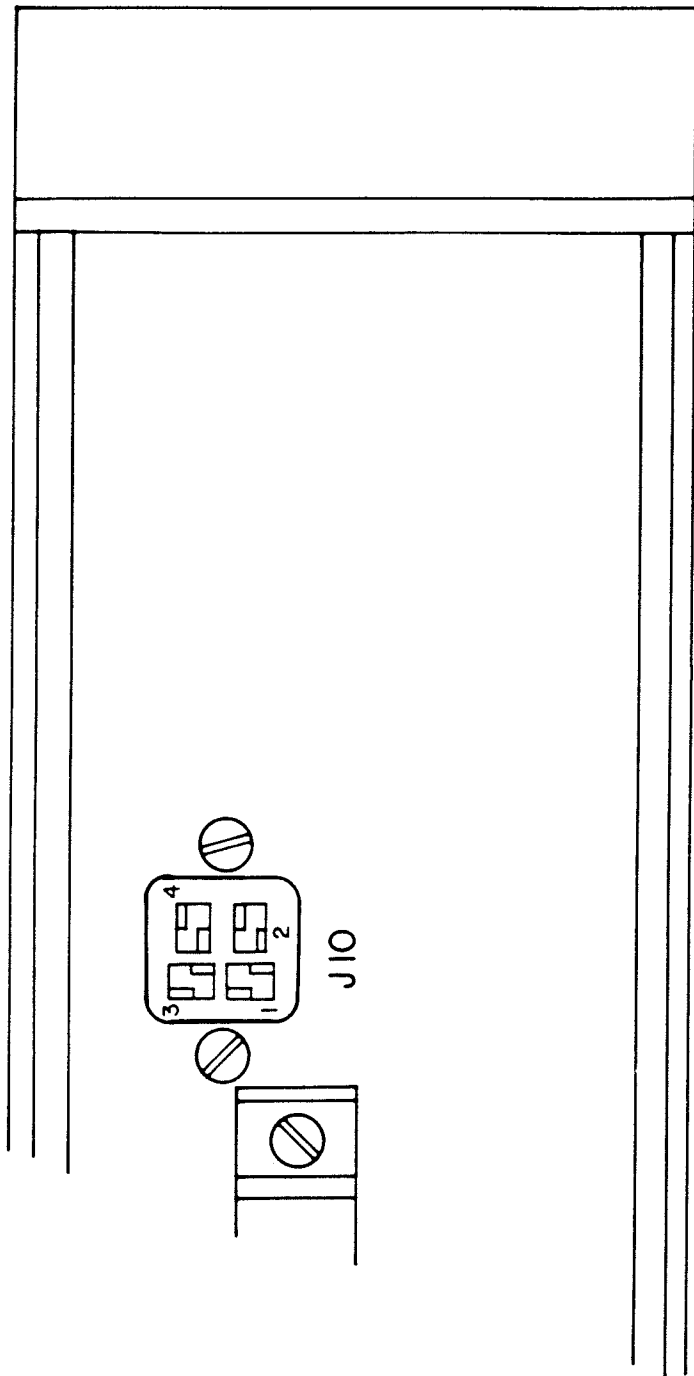

FIGURE 3.5. KT-22 ACCESSORY CONNECTOR PIN ASSIGNMENTS.
2. Accessory Connector. This jack provides DC voltage to power other units. Refer to Figure 3.5 and Section 3.4.3.
Accessory Connector. Refer to Figure 3.5. This jack provides the necessary DC voltage to power other units.